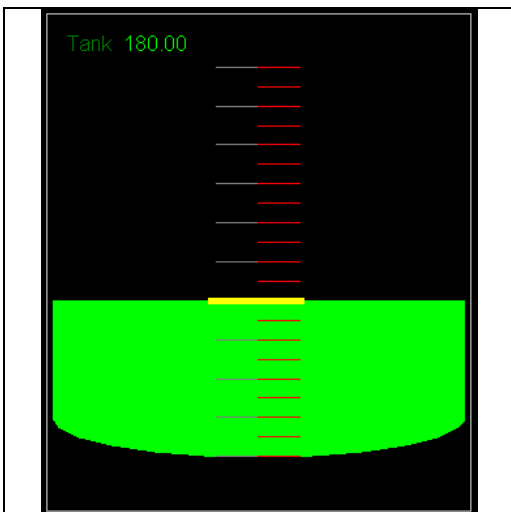

Figure 3-38 Tank Widget (Gauges/Charts)
The **Tank** display widget, shown in Figure 3-38 below, displays a numeric value as well as the visual height of a liquid in a tank for a single parameter from up to twelve (12) streams, including formulas and functions. The user has control over the color assigned to the liquid as well as its width.